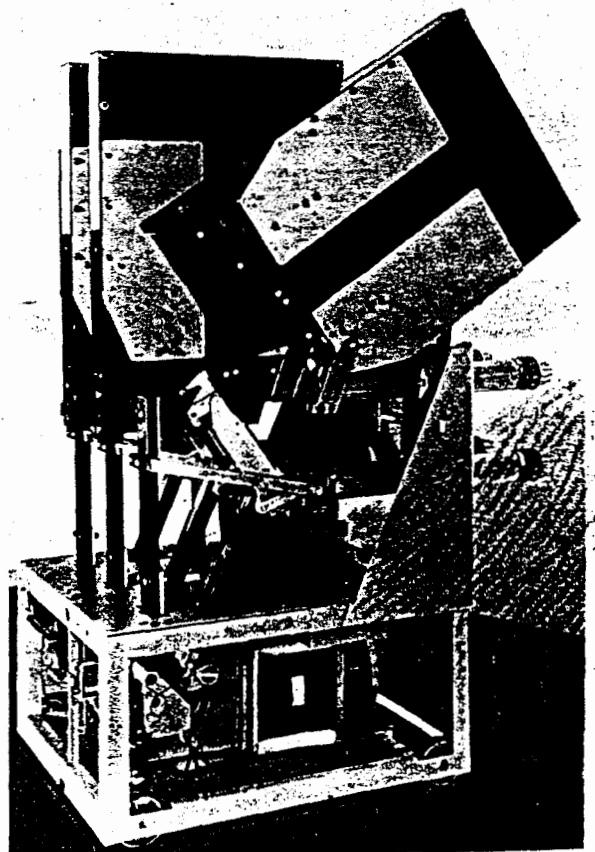

FIGURE 9
5. Slide the barrier assembly into place on the breaker. Make sure the outside sheets slip inside the frame gusset. See Figure 9.
ARC CHUTE - Figure 9